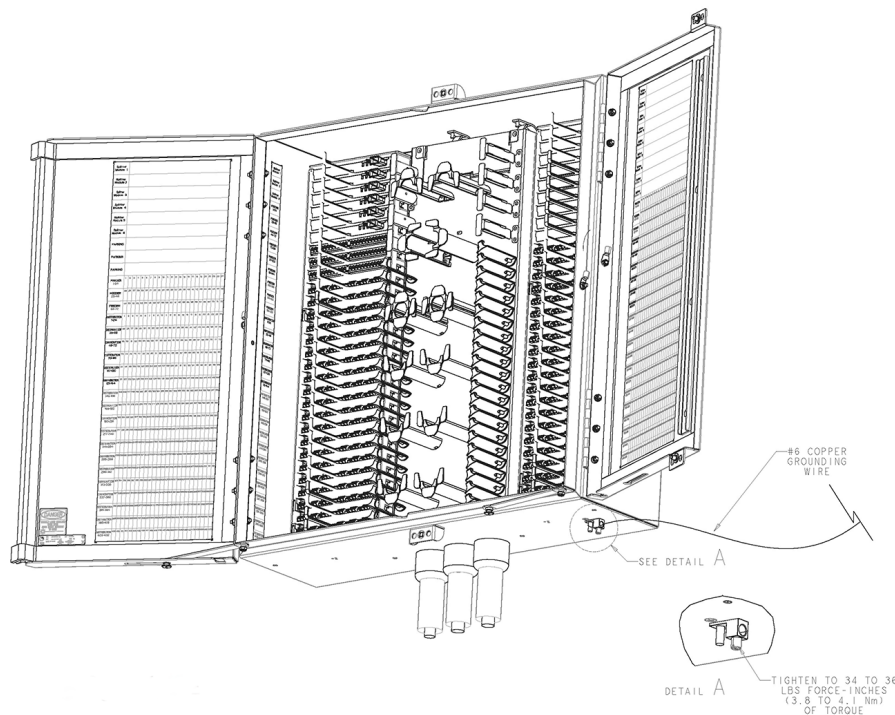

Figure 8. Grounding Wire Connection To Cabinet
- 10.2.1 Locate the cabinet grounding lug which is mounted on the underside of the cabinet as shown in Figure 8.